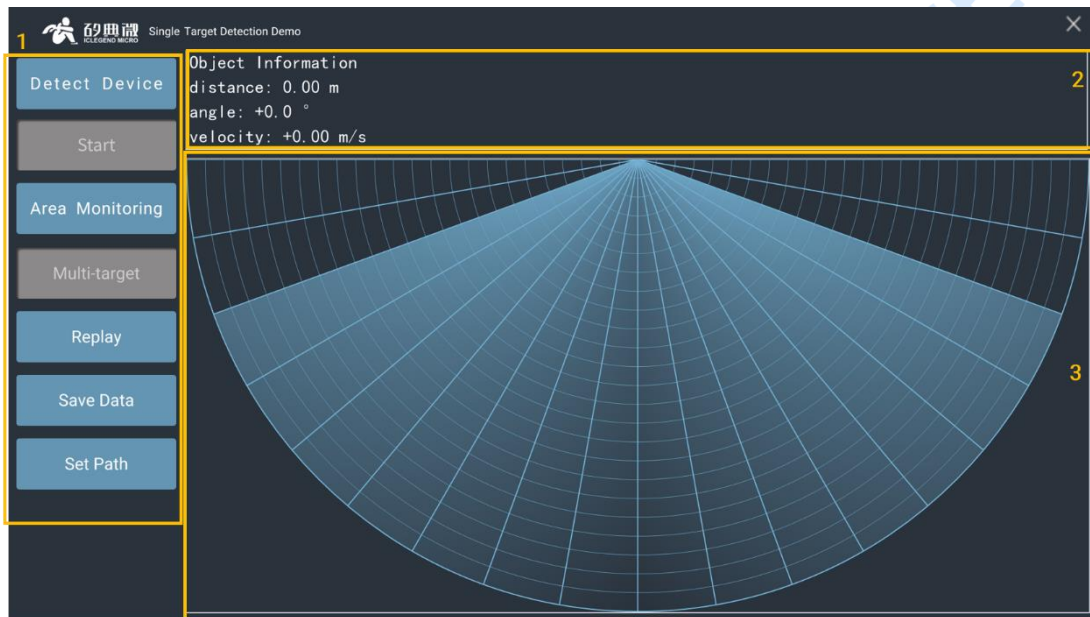

Figure 4-4 GUI of XenP202TT series designs
Step 3: Double click the **ICLM_MTT.exe** in the software directory, and the graphic user interface (GUI) will appear as shown in Figure 4-4.